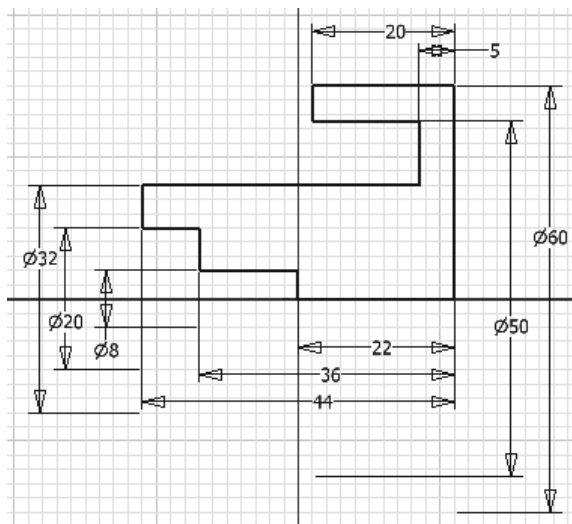

Figure 3-51 Fully constrained sketch for Tutorial 2
- d. Apply the **Coincident Constraint** between the fixed sketch point and the lower left vertex of the sketch to make it a fully constrained sketch, refer to Figure 3-51.
19. Choose the **Zoom All** button from the **Navigation Bar** to fit the sketch into the drawing window. The fully constrained sketch, after adding all dimensions, is shown in Figure 3-51.